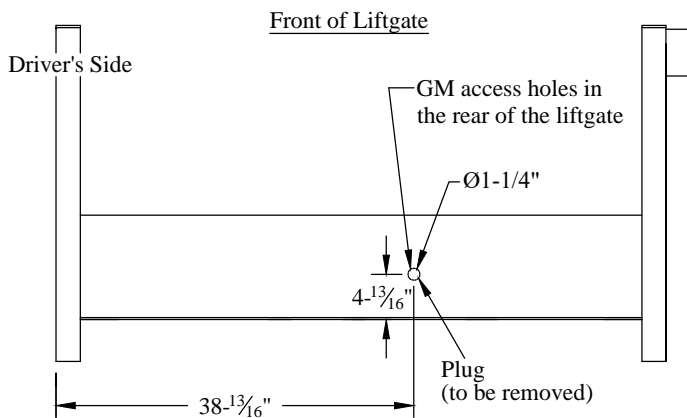

Figure 20: Spare tire access hole.
7. **Remove** and **Discard** the black plastic plug in the rear of the liftgate for spare tire tube access (Figure 20).